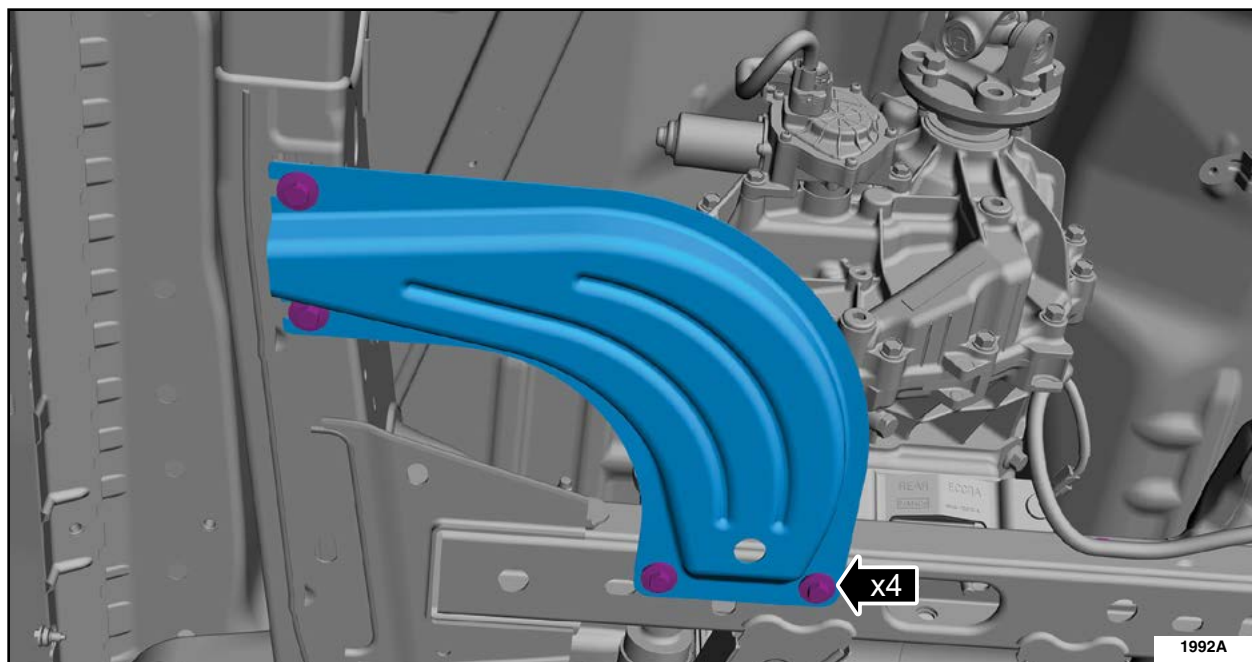

FIGURE 2
2. Remove the transfer case skid plate bolts and remove the skid plate. See Figure 2.